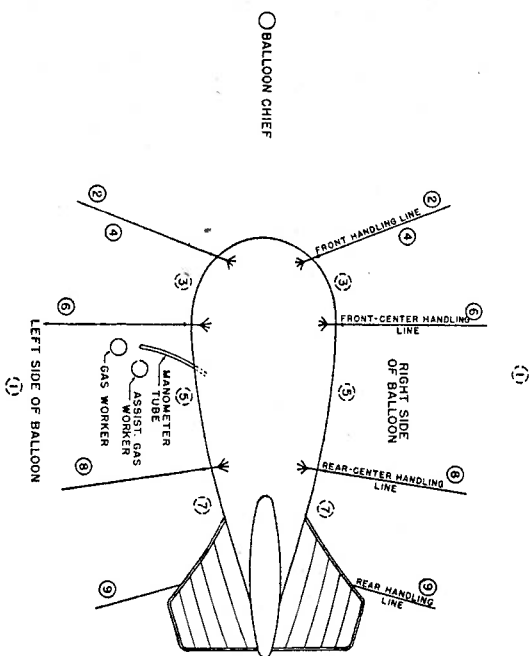

Figure 12.—Position of crew at details, posts.
■ 27. POSTING CREW.—The crew is formed as described in paragraph 16, and the balloon chief commands: 1. DETAILS, 2. POSTS. At this command, the front rank walks rapidly to the left side of the balloon, the rear rank walks to the right side of the balloon, the winch operator goes to the winch, and the gas workers go to the manometer. The crew members take posts as shown in figure 12.